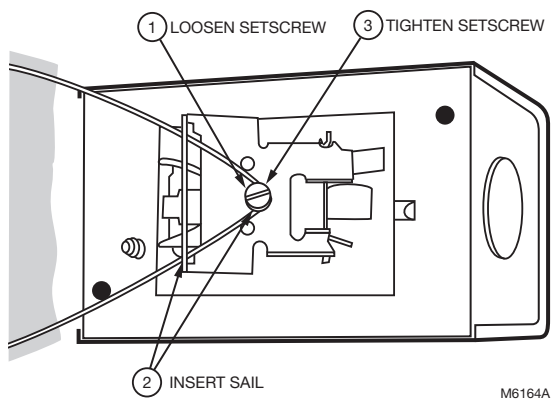

Fig. 6. Attaching sail to switch.
4. Attach the sail to the switch as shown in Fig. 6.